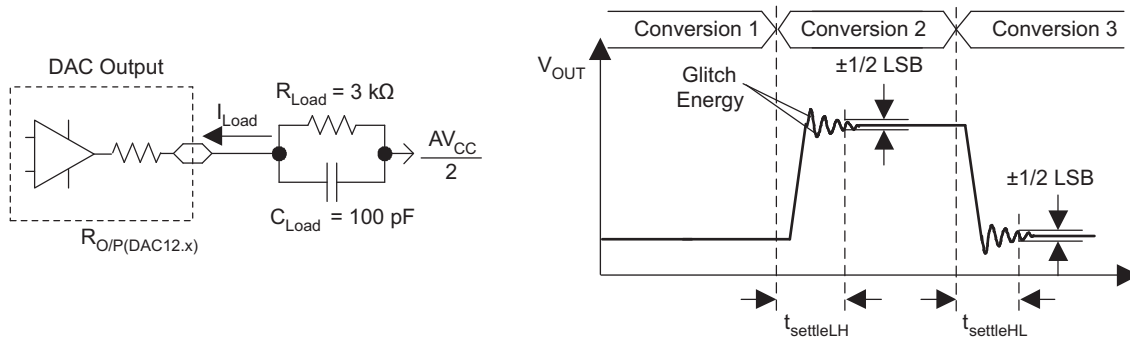

Figure 5-45. Settling Time and Glitch Energy Testing
(1) RLoad and CLoad are connected to AVSS (not AVCC/2) in Figure 5-45.
(2) Slew rate applies to output voltage steps ≥ 200 mV.